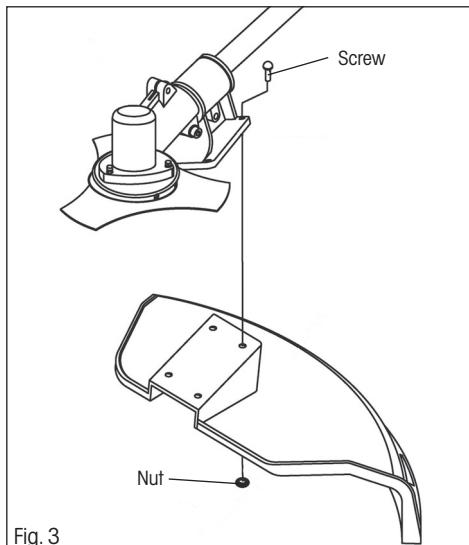

Fig. 3
- ❖ Install the protective guard on to the shaft using the supplied screws and nuts (see fig. 3)